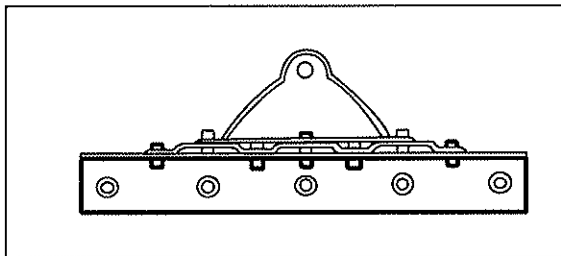

Fig. 7
5. Each support bracket must be attached with the number of bolts recommended by the fifth wheel manufacturer. (See Fig. 7.)
1. These mounting instructions are intended to be used with either a corrugated or flat mounting plate having a minimum thickness of 5/16 inch. (See Figs. 7 and 8.)
2. The corrugated mounting plate should be attached to the outboard mounting angle with a minimum of four (4) 3/4 inch Grade 8 (16 mm Grade 10.9) bolts on each bracket. (See Fig. 7.)